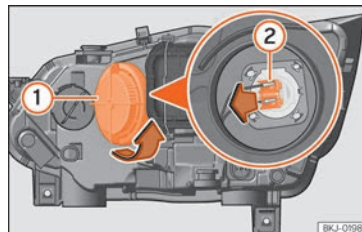

Fig. 54 In the engine compartment: main beam headlight bulb.
- Turn the cover **1** anti-clockwise and take it out » **Fig. 54**.